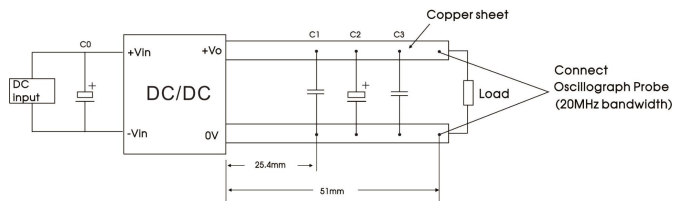

Fig. 2
^②Under 0%-10% load conditions, ripple & noise does not exceed 300mV. The test method of ripple and noise is shown in Fig. 2 parallel plate test method. Peripheral parameters of ripple & noise test are shown in Fig. 3.
All the DC/DC converters of this series are tested before delivery using the recommended circuit shown in Fig. 2., with the probe to copper foil connection as short as possible.
C5	Refer to the C3 parameter in Fig. 2